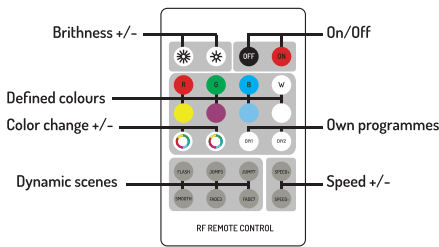

Fig. 3
- Step 1: Press and hold the "FLASH" button on the remote control (Fig.3), switch on the controller, the LEDs will light up at 50% brightness in white colour.
- Step 2: Pressing the "FLASH" button on the remote control (Fig.3) three times within 3 seconds will change the LED brightness by 25% -10% - and then the controller will confirm the programming procedure by flashing the strip light three times. If everything went well, the controller will start receiving signal from the remote control. If not, repeat steps 1 to 2.